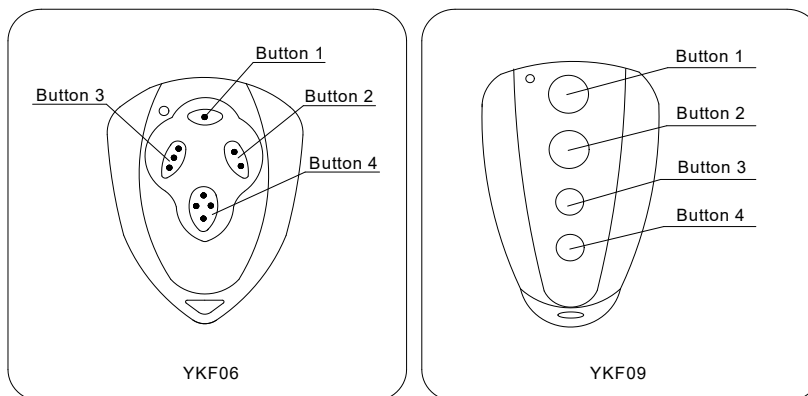

Fig.20
- The remote control works in three-channel mode, (1-open, 2-close, 3-stop, 4-not used) See Fig.20.